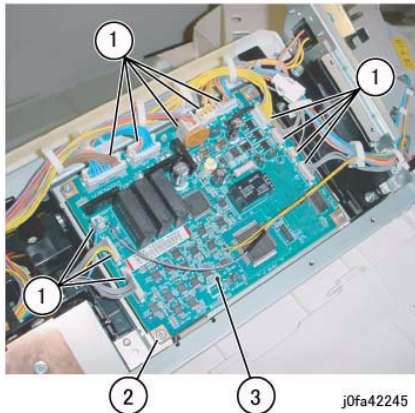

Figure 1 Removing the Finisher PWB
6. Remove the Finisher PWB (Figure 1):